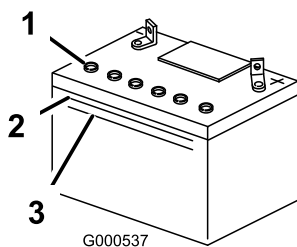

Figure 42
3. Look at the side of the battery. The electrolyte must be up to the **upper line** (Figure 42). Do not allow the electrolyte to fall below the Lower line (Figure 42).
5. Remove the vent caps from the battery (Figure 42).
6. Slowly pour distilled water into each battery cell until the electrolyte level is up to the Upper line (Figure 42) on the battery case.
7. Wait 5 to 10 minutes after filling the battery cells. Add distilled water, if necessary, until the electrolyte level is up to the Upper line (Figure 42) on the battery case.